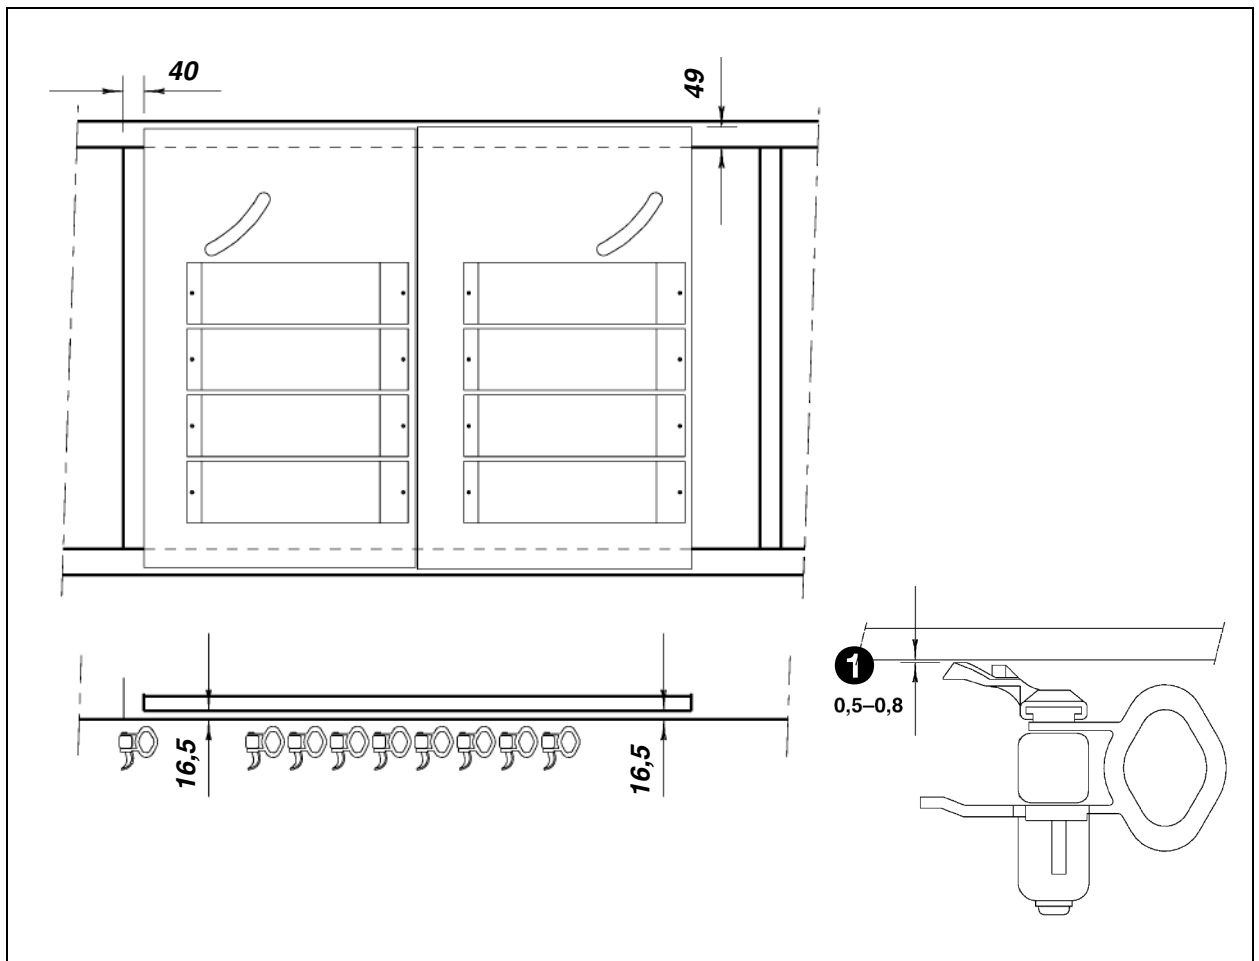

Fig. 134 - Mounting position of the release sets
*All release sets are mounted in a fixed position in accordance with fig. 134.*
*The overall height of 16.5 mm is an indicative dimension. Check the height between the reset arm on the track carrier and the release arms. The setting for this dimension (1) is shown in fig. 134.*